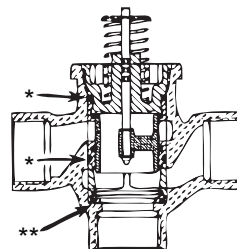

Fig. 3.
6. Clean the valve surfaces marked * and ** in Fig. 3 to ensure the new cartridge O-rings seal at these points. Use care to avoid damage to these surfaces. (** for 3-way valves only).